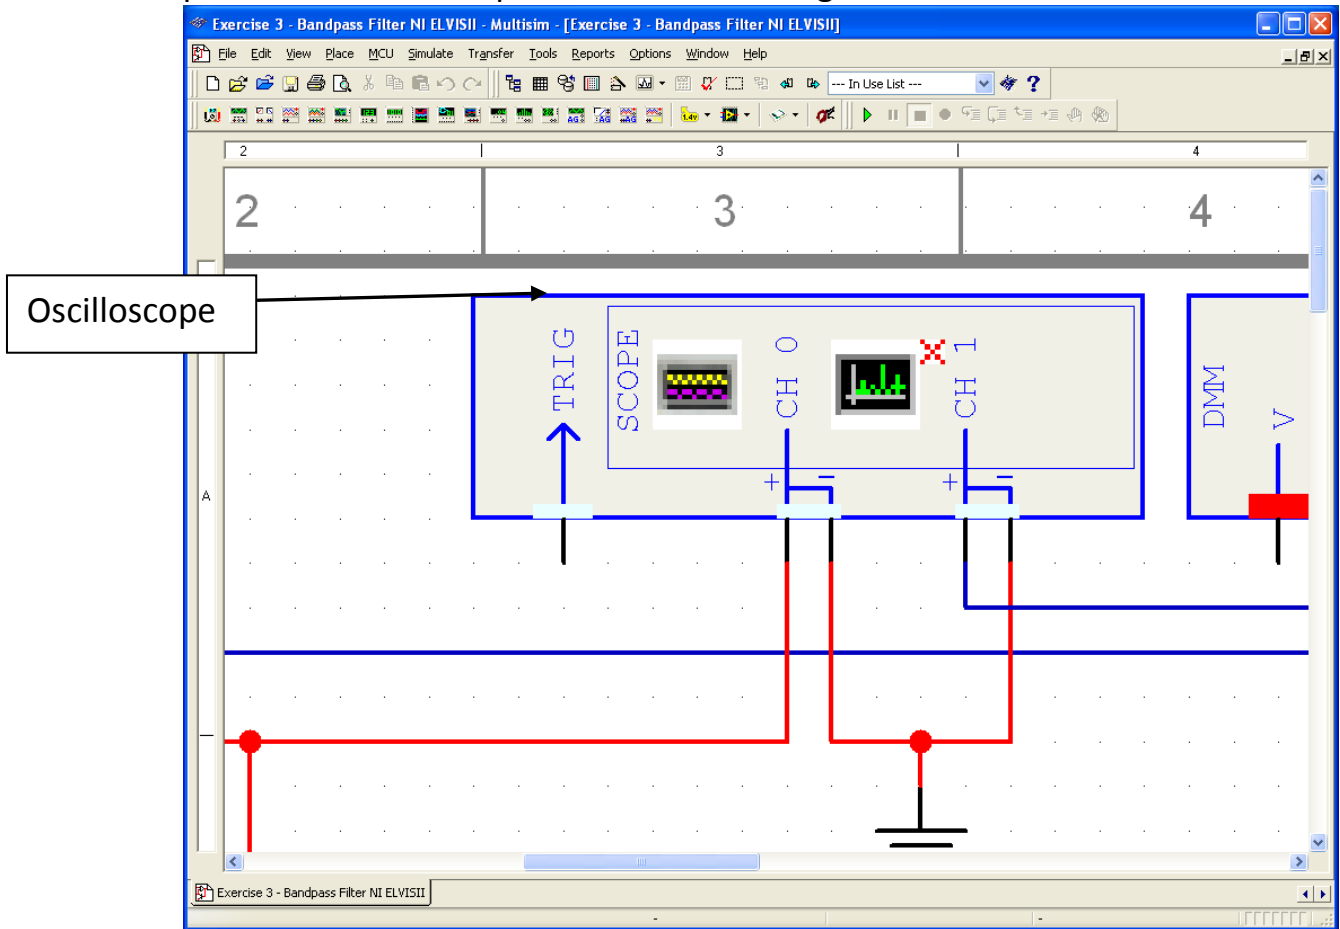

Figure E3-7. ELVISmx Oscilloscope Icon
- h. Double click the oscilloscope to bring up the oscilloscope soft front panel. The oscilloscope icon is shown in Figure E3-7.